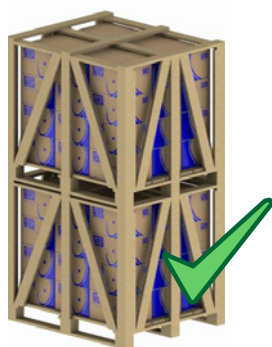
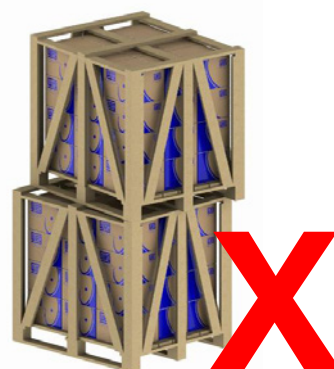

Figure 25 - Correct stacking
Figure 26 - Incorrect stacking
- 2) Align the packaging correctly (see Figure 25 and Figure 26).